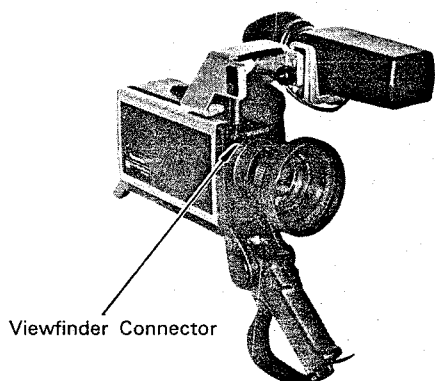

Fig. 2-2-1
- Disconnect the viewfinder connector from camera. (Fig. 2-2-1)